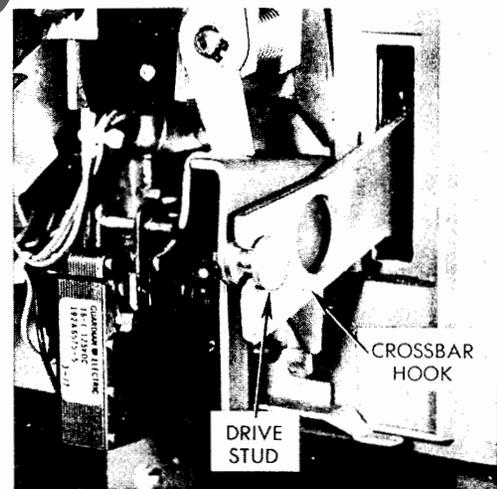

FIG. 28
- b. Slide the Inner Cover Assembly onto the breaker base. Ensure that the crossbar hook engages the drive stud as shown in Fig. 28.
6. Remove knockouts as required in side of base. Each knockout will accommodate up to three bundles of wire (Fig. 28). Remove all sharp edges with a file.